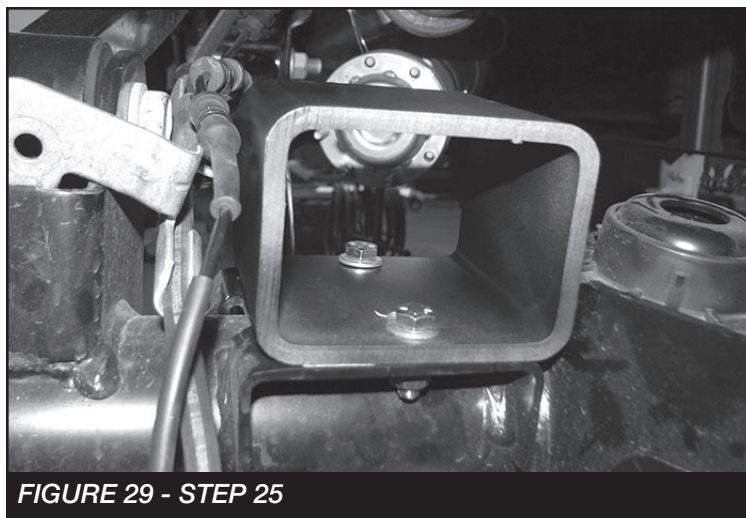

FIGURE 29 - STEP 25
25. Install the FT50724 (Rear bumpstop spacer) using the supplied 5/16" x 1" hardware. Torque to 25 ft-lbs **SEE FIGURE 29.**